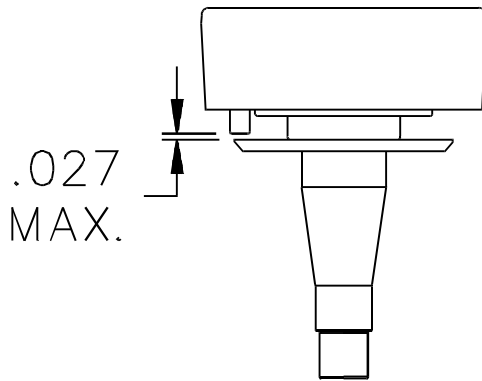

Figure 7 - ABS Sensor and Tone Ring Gap
8. Check physical gap between the sensor and tone ring (Figure 7). The brake drum must be removed to inspect gap. The maximum allowable gap is .027 inch. If the gap is greater than .027 inch, press on the wire lead end of the sensor and push the sensor into contact with the tone ring. Check that the ABS spring retainer and bushing are not unseated. Re-seat components as needed.